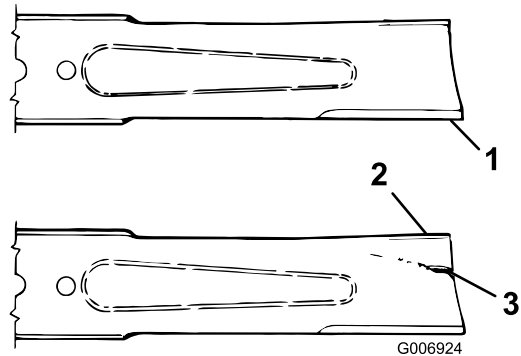

Figure 68
2. Examine the cutting ends of the blade carefully, especially where the flat and curved parts of the blade meet (Figure 68). Since sand and abrasive material can wear away the metal that connects the flat and curved parts of the blade, check the blade before using the machine. If wear is noticed (Figure 68), replace the blade; refer to Removing the Cutter Blade.
If the blade is allowed to wear, a slot will form between the sail and flat part of the blade (Figure 68). Eventually a piece of the blade may break off and be thrown from under the housing, possibly resulting in serious injury to yourself or bystanders.